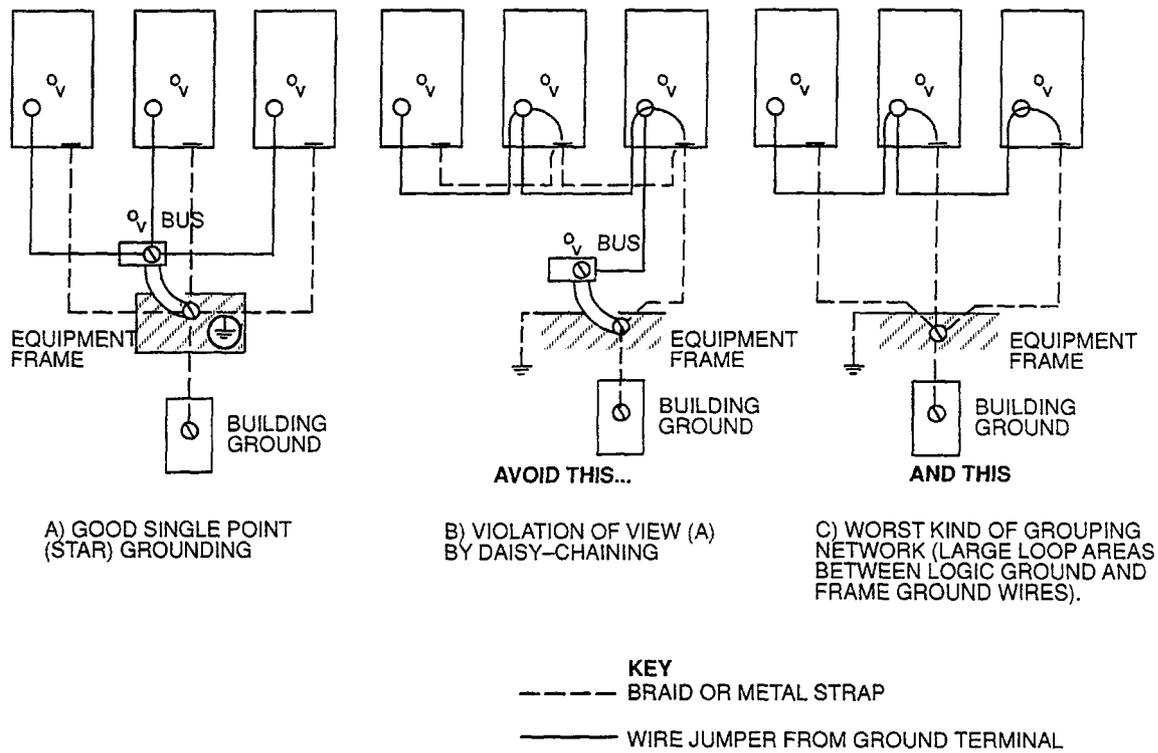

Figure 22 Centralized (Star) Grounding with Some Typical Mistakes
Figure 22 shows recommended and mistaken methods for equipment grounding using strap or braid and wire. In some cases, even units that are mounted on metal plates may benefit from chassis, 0-volt, or both connections as shown. Star grounding of the equipment AC ground wire (0v) may not be beneficial in all applications, but wiring as shown in (B) and (C) in an attempt to implement it is sure to cause ground loops when jumpers are added in this manner. *Remember* that star grounding is the preferred method for noise suppression and avoidance of ground current loops. Daisy-chaining should *never* be used.